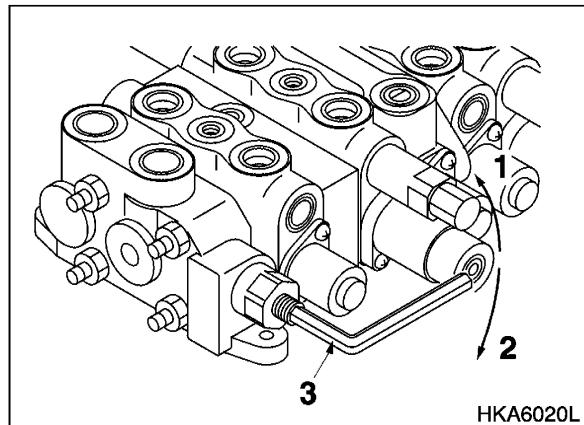

Figure 18
4. To raise the pressure, use a allen wrench (3, Figure 18) to turn the suction port relief valve adjusting nut clockwise (2). To lower the pressure turn the nut in the counterclockwise direction (1).